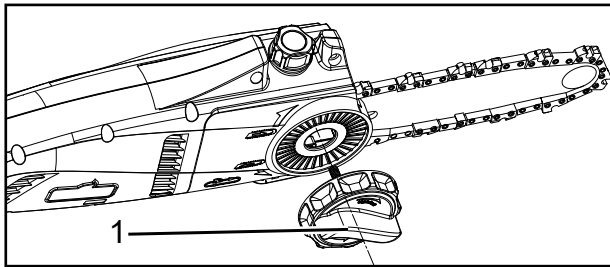

Figure 1 - Release knob
1. Loosen the cover release knob to release the chain sprocket cover (Figure 1). Remove the chain sprocket cover.